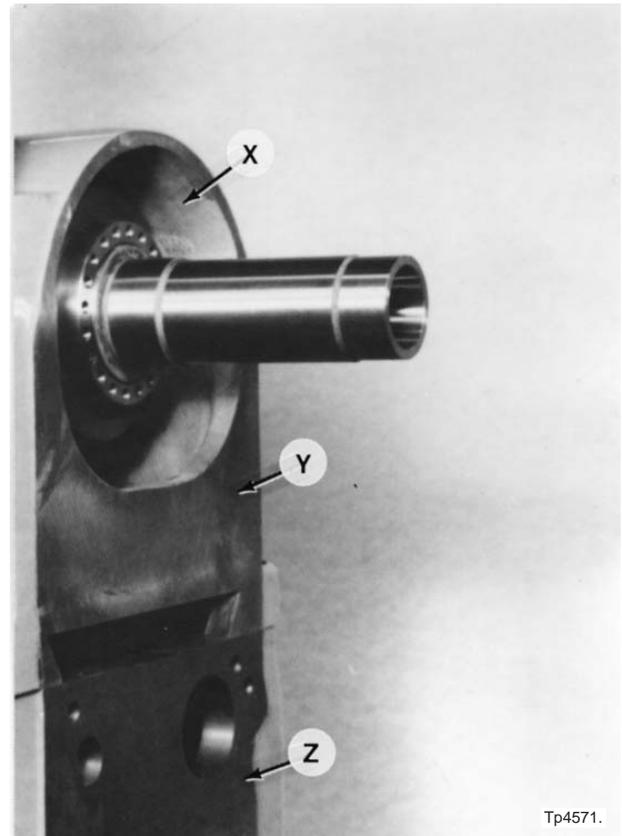

Figure 6.25 - Headstock Locating Surfaces
21. Position the headstock to locate machined surface "Y", Figure 6.25, of the headstock .008" [0.2 mm] forward (toward the tailstock end of the machine) of machined surface "Z" on the bed casting.
37. Cross the spindle belt, as shown in Figure 6.26, and feed it through opening "X", Figure 6.25, and down into the pedestal.